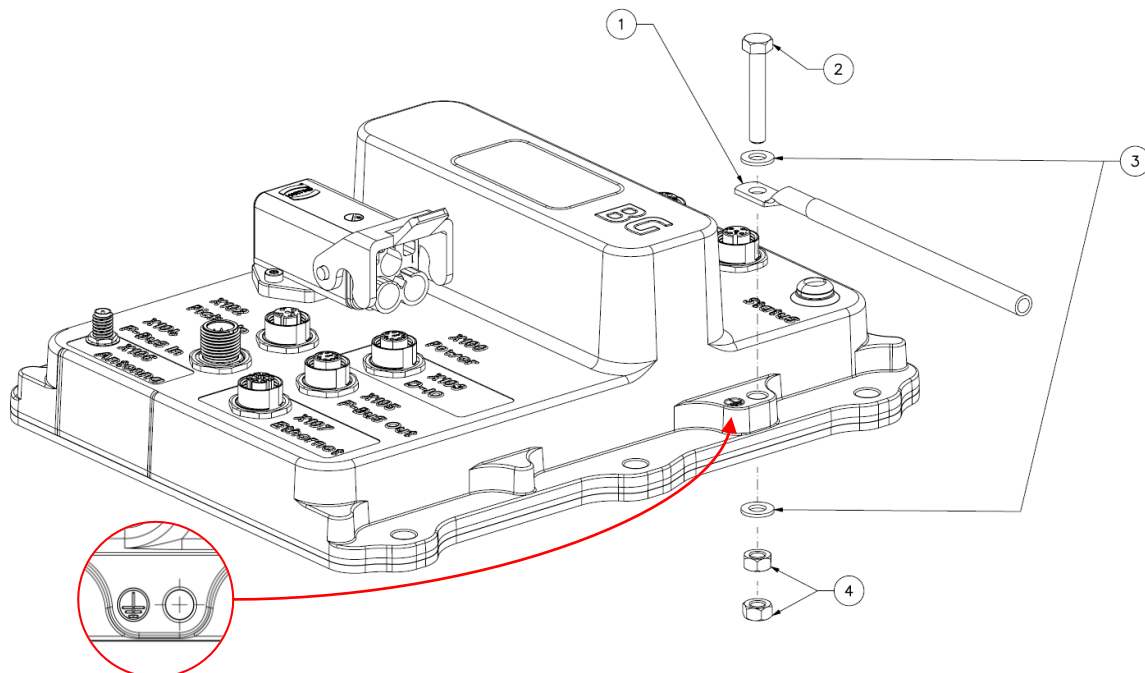

Figure 4-3: Protective earth connection
4.4. Protective earth (PE) connection
Prior to installing any other cable, the Carrier Controller must be connected to earth by fixing an earthing wire with cable lug (1) using a screw (2), two flat washers (3), and two nuts (4) to the hole marked with the PE logo ⊕ as indicated in Figure 4-3 and Table 4-2.